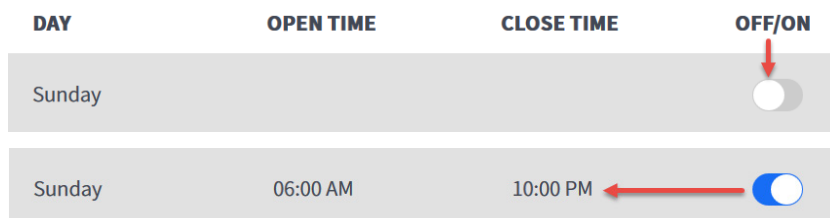

Fig. 1.13
**ON/OFF Switches:** Click on the **OFF/ON** switch to turn an option ON (if its current status is off) or OFF (if its current status is on). Some fields are invisible in the OFF position but become visible when turned ON (see OPEN TIME and CLOSE TIME columns in Fig. 1.13).